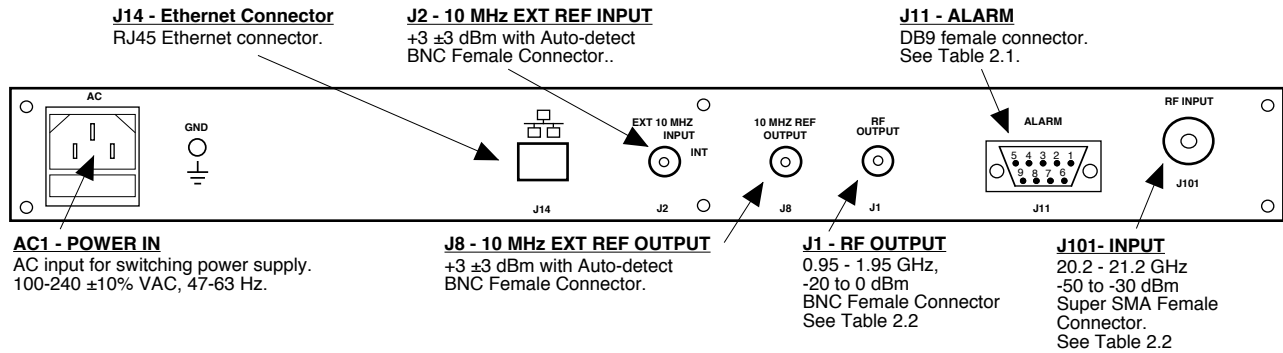

FIGURE 2.1 3116-202 Rear Panel I/O's
Figure 2.1 shows the input and output connectors on the rear panel.
1. Connect a -50 dBm to -30 dBm signal to RF IN, J101 (Figure 2.1).